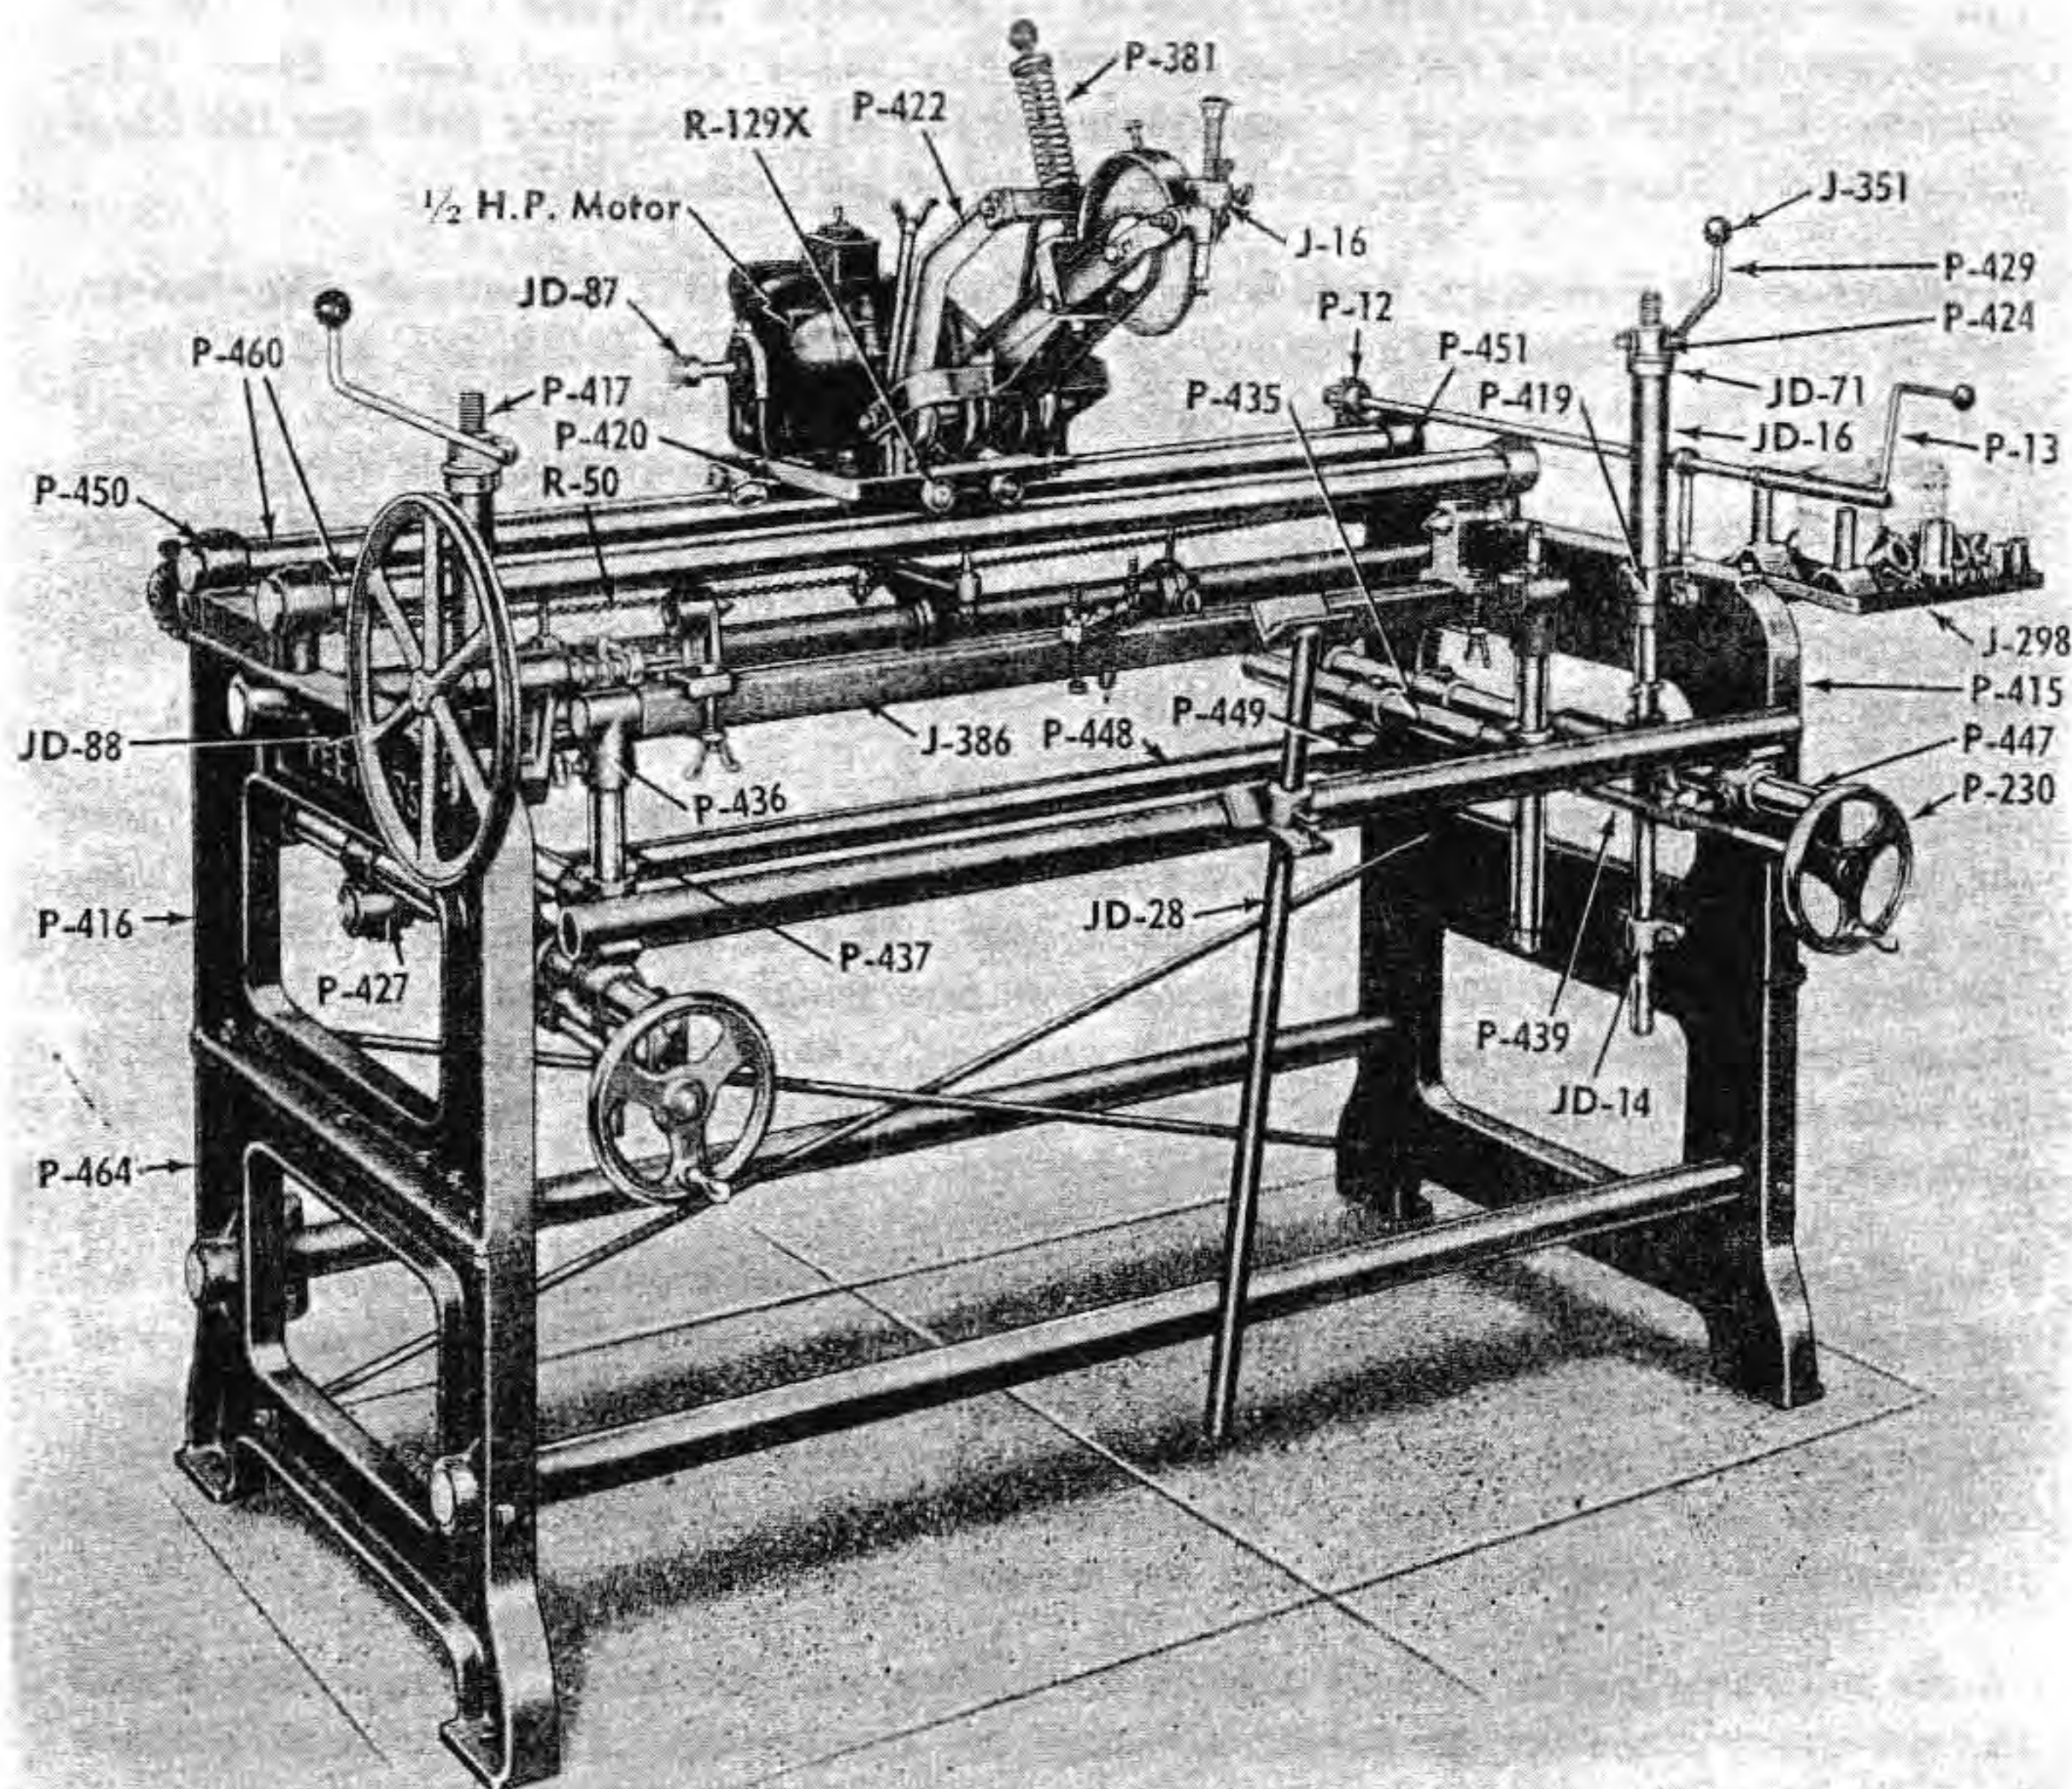
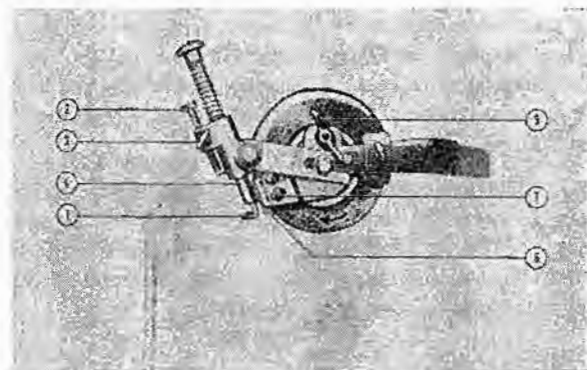

Fig. 1
Fig. 4
leave the machine as shown in Fig. 1, except for the grinding head and a few other parts.
6. Next the two P-437 mower support shafts can be placed in the castings on the end of the P-435 hand lever support bars as shown in Fig. 1. You will note that on one end of the P-437 mower support shafts there is a V notch cut while on the opposite end there is a hole into which the cone pointed support can be fitted. Also the bed knife holding bar attachment slips into these holes and either end of them can be used. Their use will be explained further on in this book.
12. Now is the time to determine if any parts are missing from your Peerless, check against Fig. 1, and 2, and the complete parts list for your Model 600. These illustrations cover the Model 600 Peerless complete so if you ordered your machine other than complete this will have to be taken into consideration. The reconditioning attachment consists of a large drive pulley and shaft, and a round endless belt for driving same from the left hand side of the motor. In addition you should have with this attachment one coupler J-240, three sizes of bushings for the J-240 coupler, two driving sockets and one socket driver which will accommodate various sizes of tool box sockets, and two pints of lapping compound, fine and medium grit, making up this assembly. Fig. 1, shows these loose parts in the tool tray provided at the right hand side of your machine.
13. If your machine is ordered complete with the bed knife grinding attachment you will want to check the parts for this attachment which are shown in Fig. 1. In addition you will have the two extra large V-rests for use on your mower supports and two offset V-rests for holding reels being ground separately. Also you should have a telescoping gage which is used to set the distance of a reel or mower the same at both ends from the front main carriage shaft. This gage telescopes in and out and can be set to stay in one position. The remaining two unconnected parts are the roller jack and the roller rest jack support pipe which were wired in place across the front of the machine.
Compensating adjustments to align the mower for sharpening are made after the grinding has actually begun. Positioning of the grinding head so that the hook (#1, Fig. 4) extends approximately $\frac{1}{8}$ " under the bed knife when engaged may be accomplished with the horizontal adjusting screws actuated with the P-230 hand wheels located on either side of the adjustable platform shown in Fig. 1. Of course the mower is first leveled to be square with the
25. MOWER SUPPORTS "POINT" AND "V" RESTS (Fig. 1). Two mower support castings, P-449 of the cantilever type gravity-rest are free to be moved side ways on their supporting bars, with their pointed ends supported under a rear bar. Their front ends are formed to hold a mower support shaft which is provided with holes to permit three positions of elevation and can be reversed to bring either end of the mower support shaft up. They can further be provided with pointed rests, V-type rests, or a set of offset V-type rests used for separate reel grinding. These supports are inserted in the castings formed to hold them and we suggest that stopping pins be placed in the middle as shown in Fig. 1. They can be locked in position by tightening a thumb screw.
26. ROLLER REST ASSEMBLY — The Roller rest in Fig. 1 is adjustable up and down by compressing the thumb trigger and raising or lowering the rest assembly
28. GRINDING CRANK. The adjustable frame on which the lawn mower rests is moved up or down on either side (using the opposite side as a pivot) by turning either of the two elevating cranks — J-351, Fig. 1.
29. HORIZONTAL (FORWARD AND BACKWARD) ADJUSTING CRANKS. The two cranks (P-230, Fig. 1) are turned to move the adjustable platform away from or toward the operator. Either crank moves its side of the adjustable platform in or out with the other side acting as a pivot.
NOTE: The adjustments described above function to position the mower to be ground with respect to the "Hook" (#1, Fig. 4) and are termed the secondary or fine adjustments. These are made after the primary adjustments such as the height of the mower supports and the height of the rollers rests support have been made.
30. FEED CONTROL SCREW (See Fig. 4). The hook (1), which holds the grinding unit in position with relation to the reel blades, is adjustable vertically by the feed control screw (2). A thumb screw (3) locks the feed control screw after it has positioned the hook or has increased the feed while grinding. The hook is removable or can be adjusted in or out to increase the range of the feed control screw (2). The hook is held in place by an allen set screw (4).
31. FINGER POINT HOLDER. By loosening the wing nut (#5, Fig. 4). The finger point (6) can be rotated around the grinding wheel to engage the front edge of the reel blades and hold each one in a set position so the proper bevel or angle is ground on it.
33. FINGER POINT AND SPREADER ASSEMBLY (See Fig. 4). To compensate for the reduction in diameter of the grinding wheel due to wear (and dressing to retain a crown) the finger point screws (7) are loosened to permit the finger point (6) to be moved closer to the wheel. The finger point should be as close as possible without touching the high point of the crown. This adjustment is usually made after the wheel has been dressed two or three times to restore the crown.
34. After the finger point has been adjusted to the wheel a few times, it will become necessary to adjust the hook and hook shaft closer to the grinding wheel. This is done by loosening the spreader bolt (8) and moving the hook shaft in until it just clears the finger.
37. **CARRIAGE SHAFT TRACK.** After years of service the carriage shafts, P-460, Fig. 1, may develop flat surfaces under the carriage bearings. By rotating the tracks, the bearing wheels travel over new surfaces reducing wear on any one spot. Rotate the shafts periodically, to provide new track surfaces.